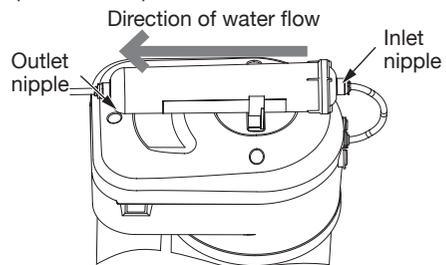

Figure 12
### Replacing the conditioning cartridge (fig. 12):
- Disconnect the JG tube from the inlet and outlet nipples (fig. 12). For this purpose please remove the retaining clip from under the plastic sleeve, press the end of the plastic sleeve and pull out the tube.